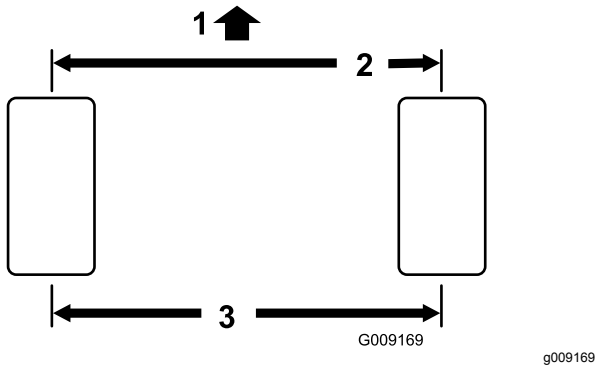

Figure 70
1. Measure the center-to-center distance (at axle height) at the front and rear of the steering tires. The front measurement must be 3 mm (1/8 inch) less than the rear measurement (Figure 70).